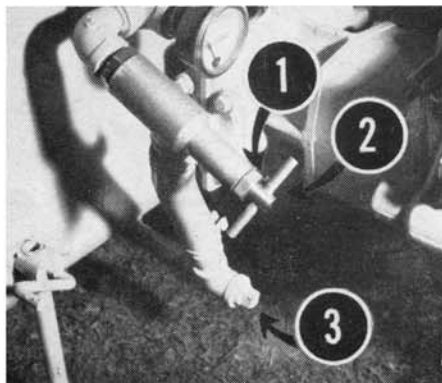

Figure 7
**OPERATING THE SPRAYER.** Loosen the lock nut, 1 in Figure 7, and turn it clockwise until resistance is met. Then back it off 10 full turns. Close the Gun by turning the handle completely clockwise until resistance is met.
**SETTING PRESSURE.** See the table on Page 8 to determine proper pressure for the job you plan to do. Set the pressure by turning the Pressure Relief T-Valve, 2 in Figure 7, until the Pressure Gauge registers the desired pressure. This usually requires turning the T-Valve clockwise, which increases pressure.
Drain all material from the Tank by removing the Drain Plug, 3 in Figure 7. Spray materials can be drained into a suitable container for storage.